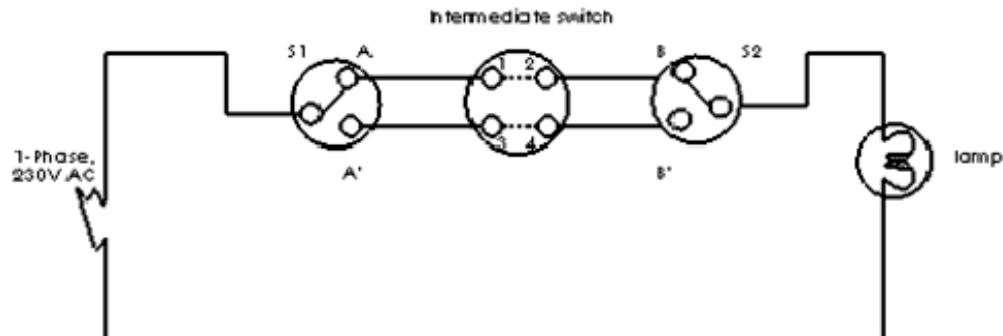

Figure 12.2: Circuit diagram of three-way control of lamp
- 12.2 Draw the electrical circuit diagram of three-way control of lamp as shown in Figure 12.2